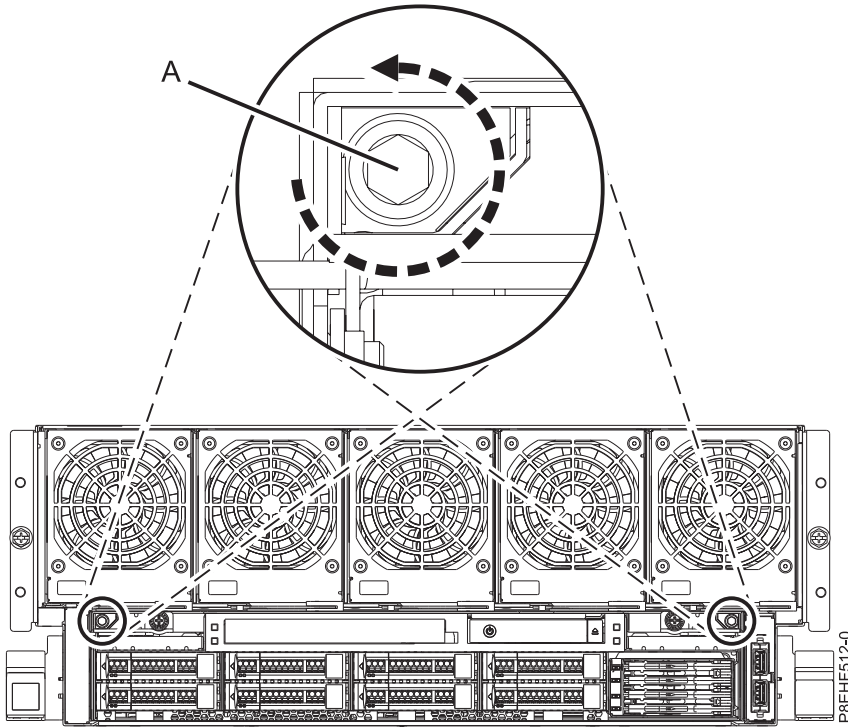

Figure 2. Loosening the shipping screws
2. Loosen, but do not remove the recessed shipping screws (**A**) in the RAID assembly by using a 4 mm Allen wrench, as shown in Figure 2 on page 4.